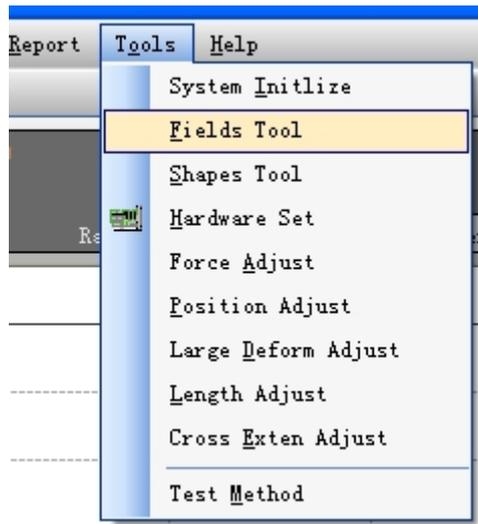

Figure 8-1
- 3 in the main menu click Tools, Options form, shown in Figure 8-1;
3 in the main menu click on Tools, Options form, shown in Figure 8-1;